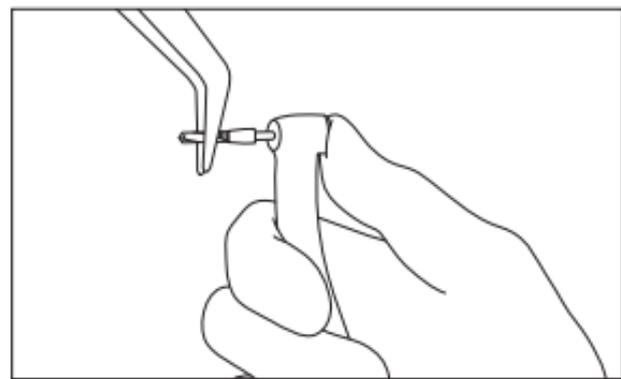

Fig. 11
2) Retirez la fraise/le foret. (Fig. 11)